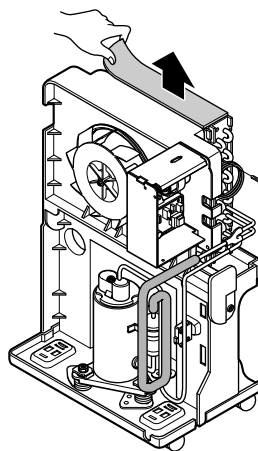

Figure 18
3. After discharging the refrigerant completely, remove 2 screws between the shroud and the H/E. (See Figure 18)